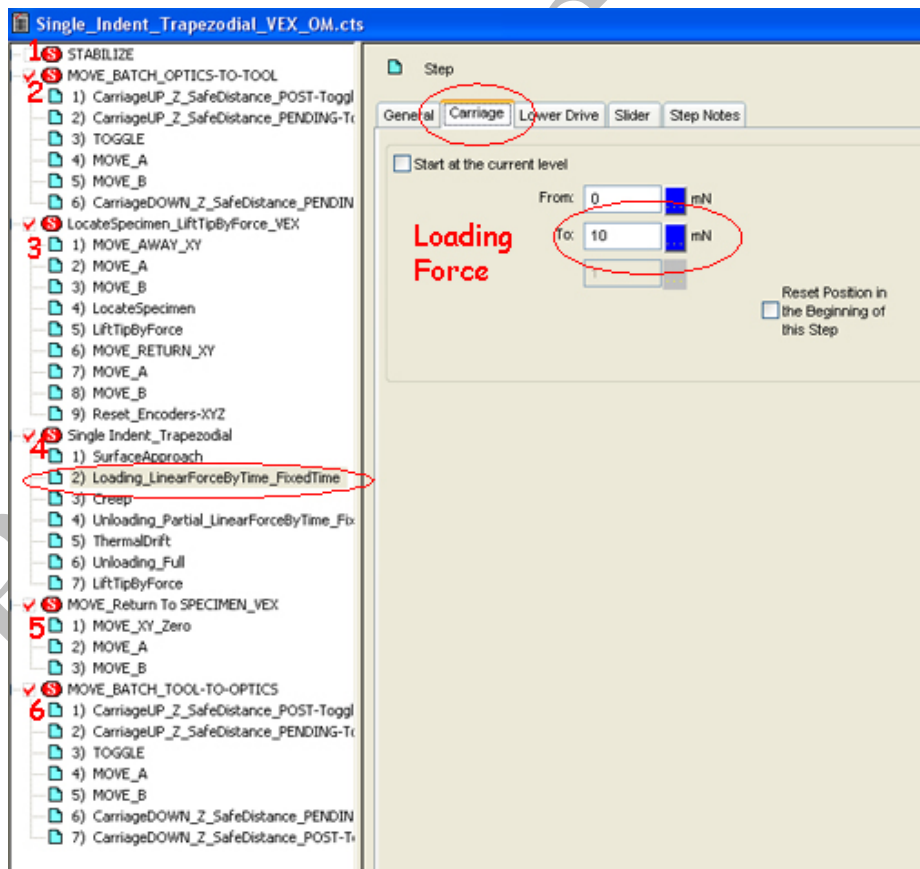

Figure 4: Loading Force in the Single_Indent_Trapezoidal_Vex_OM.cts script.
- 2) Navigate to the 4th sequence and the second step called “Loading_LinearForcebyTime_FixedTime” and select the “Carriage” tab as shown in Figure 4.